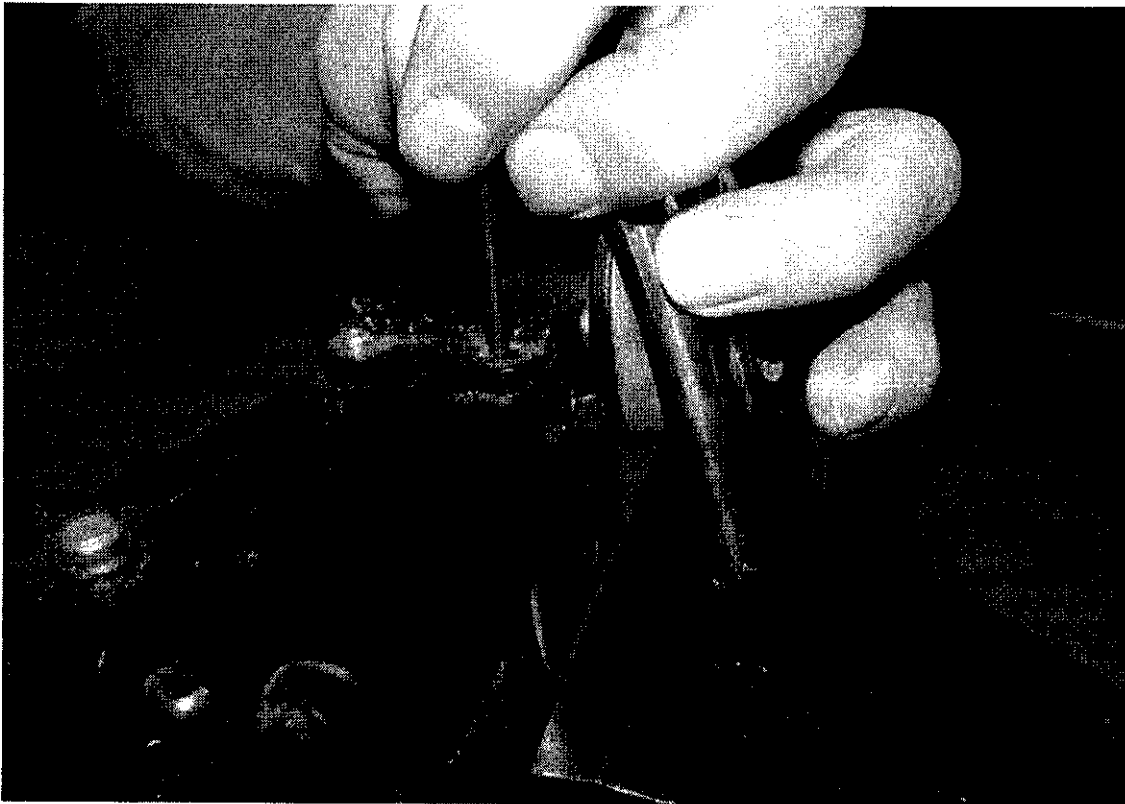

Figure 5
- Manoeuvre the mascot mechanism to the raised position; supporting the back, knock out the upper roll pin with an adequate punch (see Figure 5)